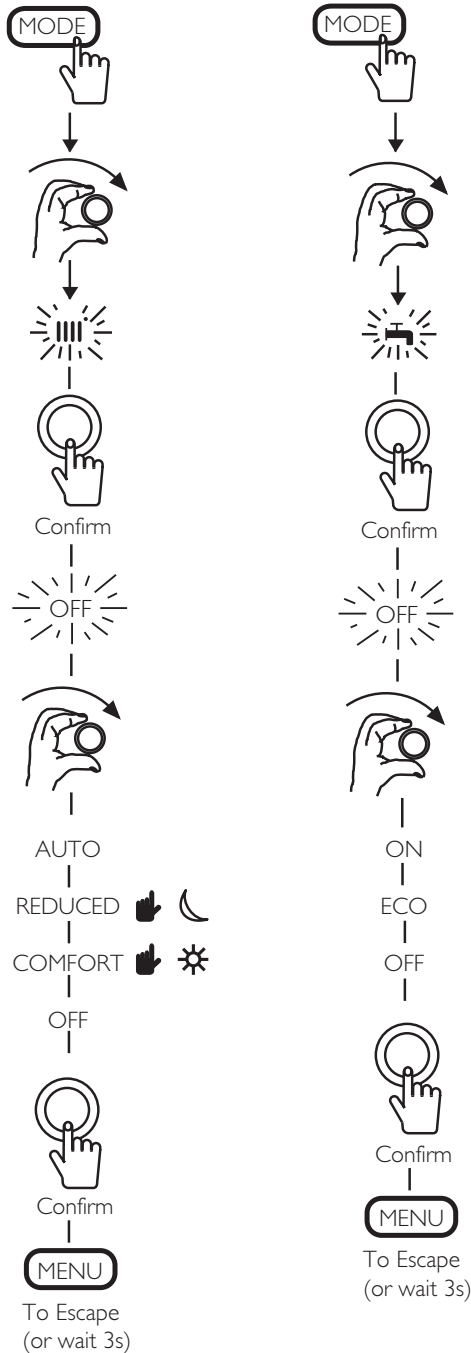

Fig 22. Central Heating & Domestic Hot Water activation
1. Press the MODE button and rotate the Selector Button until the flashing Central Heating symbol is seen in the display. Fig. 22.
1. For Combi boilers it is recommended that the Domestic Hot Water setting is left in the 'ON' position. If it is necessary to alter the setting follow the process shown in Fig 22.